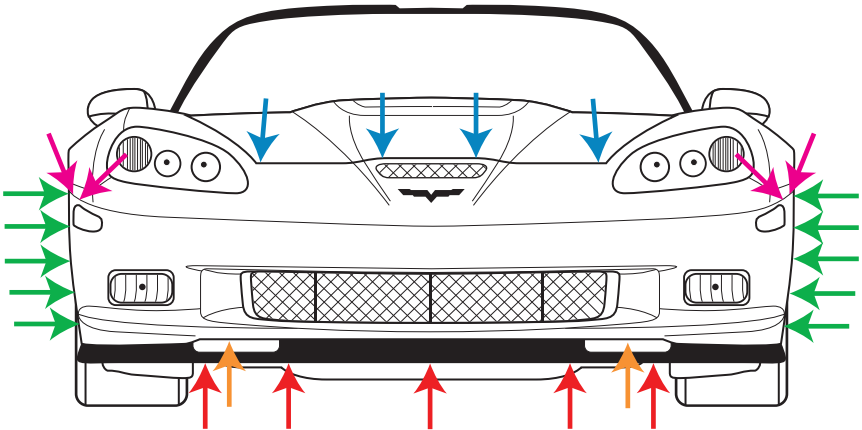

Figure 1 - Front Bumper Fastener Locations
5. Remove the front bumper cover by removing the fasteners listed below, and indicated in Figure 1: